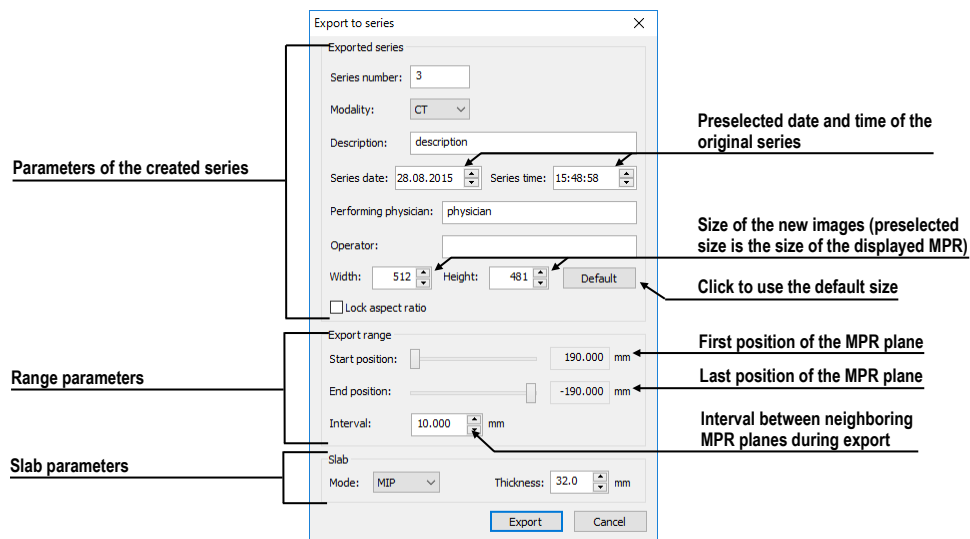

Figure 285 – Export to series dialog
3. The **Export to series** dialog will be displayed in which you can set the parameters for MPR export (see Figure 285).